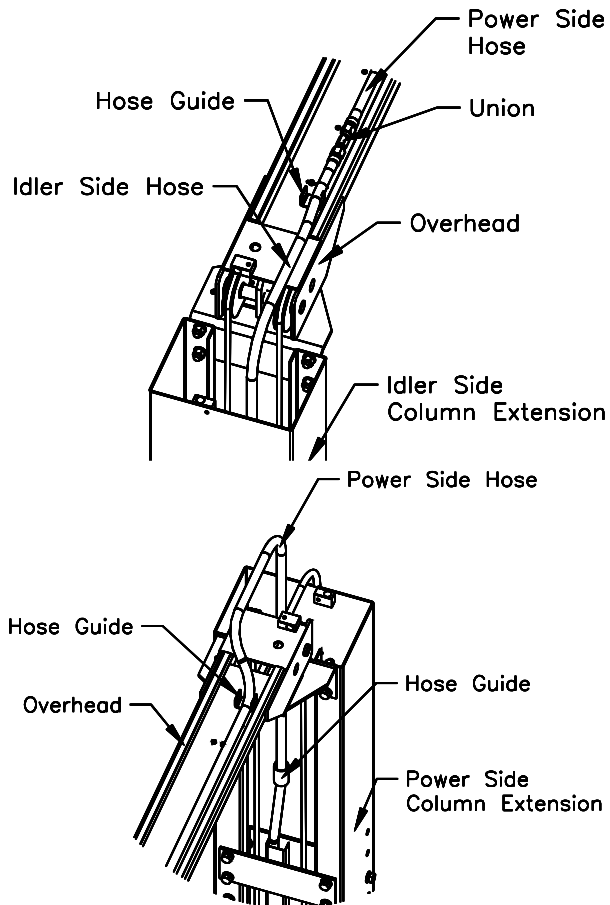

Fig 10 – Hydraulic Hose Routing
17) The Hydraulic hoses are pre-routed in each column. Uncoil the hoses at the top of each column and route through the guides in the column extension, over the ends of the overhead and through the guides of the overhead. Join these hoses with the hydraulic union supplied. Tie the hoses to the guides in the overhead. Refer to **Fig 10** below.